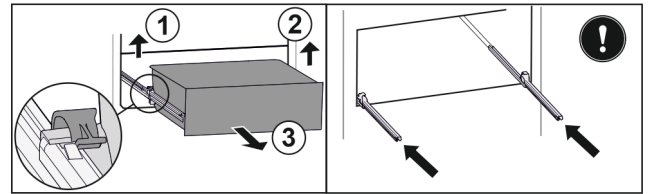

Fig. 141
- ▶ Lift left clamp and simultaneously pull drawer forwards on the left. Fig. 141 (1)
- ▶ Lift right clamp and simultaneously pull drawer forwards on the right. Fig. 141 (2)
- ▶ Remove drawer to the front. Fig. 141 (3)